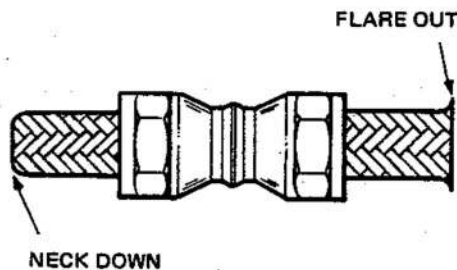

Fig. 2 Hose neck-down flare out
5.2 All end fittings are to be cleaned in trichloroethane prior to installation. Place 2 sockets skirt to skirt in a vice and work hose through sockets with a twisting, pushing motion. Inserting sockets over "neck down" end of hose, as shown in Fig. 2, will facilitate assembly.